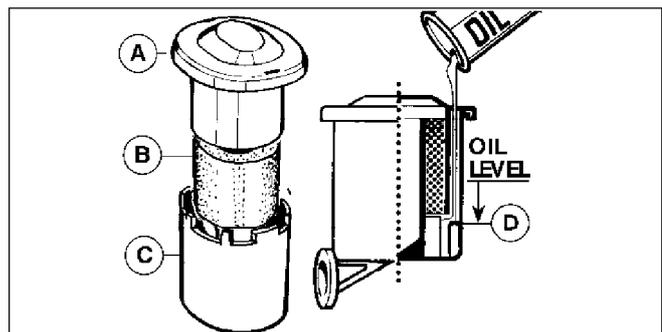

Fig. 9
#### 5. OIL BATH FILTER (Fig. 9)
The oil bath filter is only efficient when the oil is at the level indicated on the bottom of the container (Fig 9-D). Check oil level every five (5) hours. If not to correct level, refill container using a similar oil to that used in the engine. Change oil once a year or more often when operating in extremely dusty conditions.